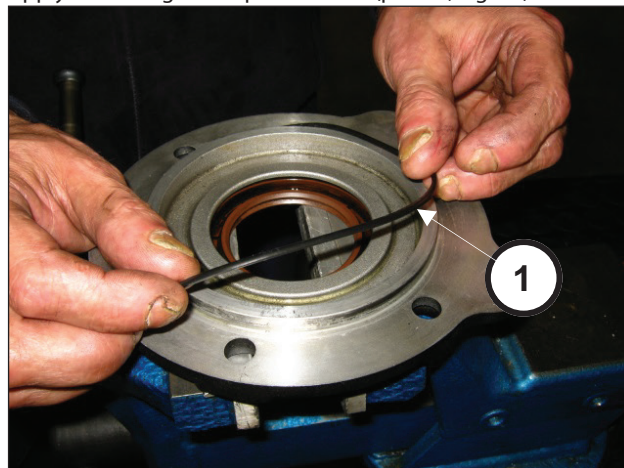

Fig. 92
Apply the O-ring to the pinion cover (pos. ①, Fig. 92)